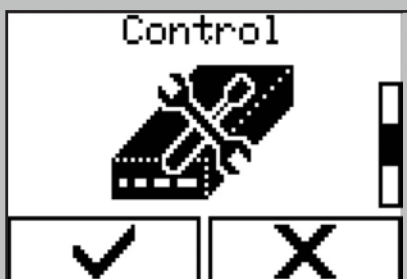

Figure 34 - 'Control' menu
- Confirm the selection with the  button (✓).⇒ The menu item 'Control' (Figure 34) has been selected.